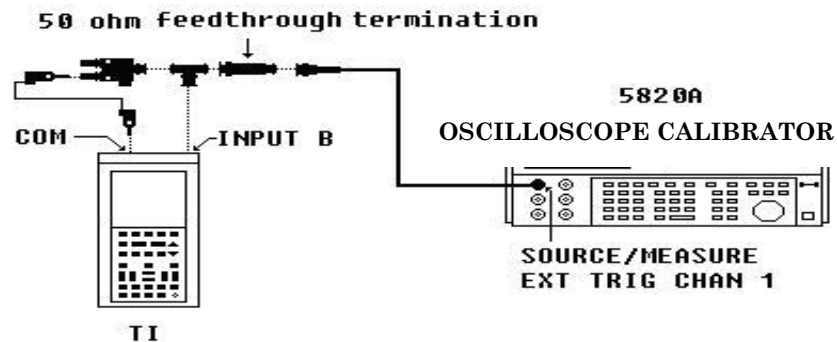

Figure 4. Scope bandwidth input B.
(5) Set oscilloscope calibrator **LEVSINE** output to produce a 120 mV at 50 kHz and adjusting edit amplitude output dial for 6 vertical divisions on TI.
(6) Set oscilloscope calibrator frequency output to produce 80 MHz.
(7) Using oscilloscope calibrator, increase frequency edit dial until frequency drops the amplitude down to 4.2 divisions on TI. If frequency is not greater than or equal to 100 MHz, perform **b** below.
(8) Set oscilloscope calibrator to standby.
(9) Connect equipment as shown in figure 4 below: